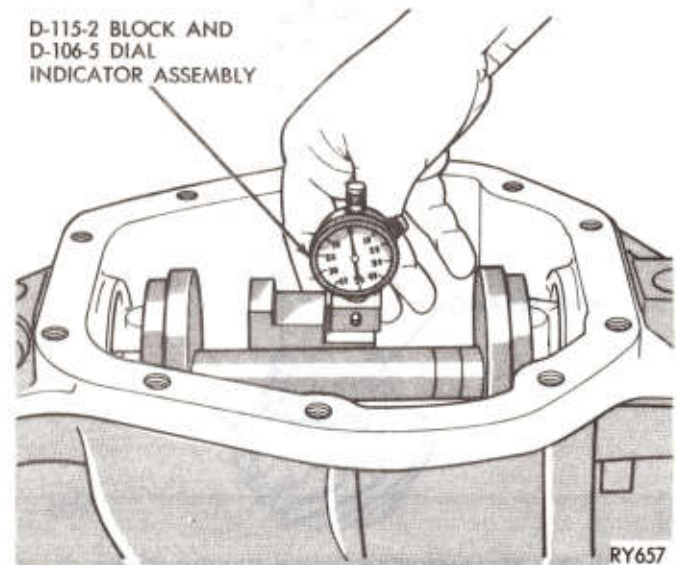

Fig. 34—Checking Pinion Depth
(4) Position gage assembly Tool D-115-2 gauge block and D-106-5 dial indicator on small step of pinion height block. Making sure that the gauge assembly is flat on the pinion height block, set the dial indicator to read "0" (Fig. 34).
(5) With indicator set at "0", move the gauge assembly so that the tip of dial indicator stem contacts arbor.
indicator at "0". Slide gauge assembly across or over arbor (Fig. 34).